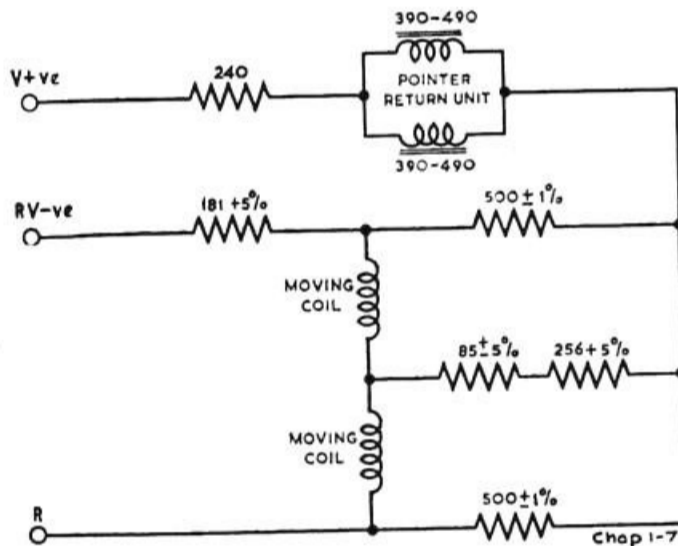

Fig. 2. Circuit diagram
2. The circuit diagram is shown in *fig. 2* and connections to the indicator are made via three terminal screws V+, RV- and R.